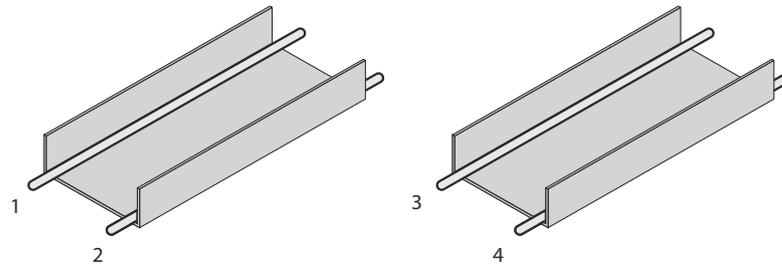
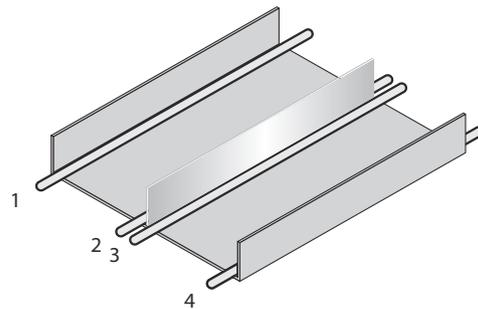

Figure 8: Ideal laying - Place cables in different cable channels
Figure 9: Alternative laying - Separate cables with metallic separators
- ▶ Route the cables in groups 1, 2 and 3, 4 in different cable channels or use metallic separators (see figure 8 and see figure 9). This applies particularly if cables of devices with a high level of radiated emission, such as frequency converters, are laid parallel to device cables.